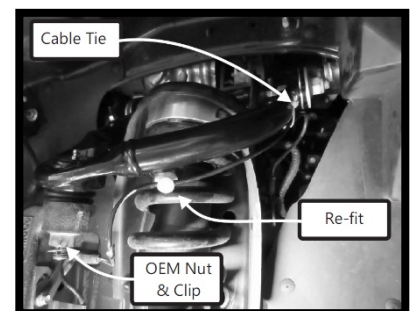

Fig 2: Re-fit the ABS wiring and OEM bolt, washer and nut
18. Re-fit the ABS wiring bracket (Fig 2).